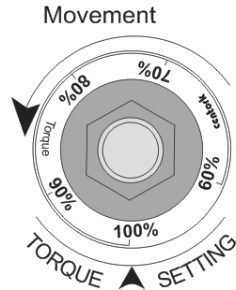
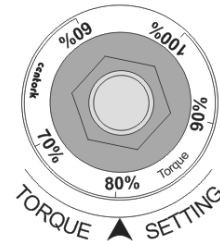

Figure 10.4-4
Figure 10.4-5
- Using a No.17 wrench, turn the **TORQUE LIMIT DEVICE** until the desired torque matches with the arrow **S** on the dial. (Figure 10.4-4 and Figure 10.4-5).